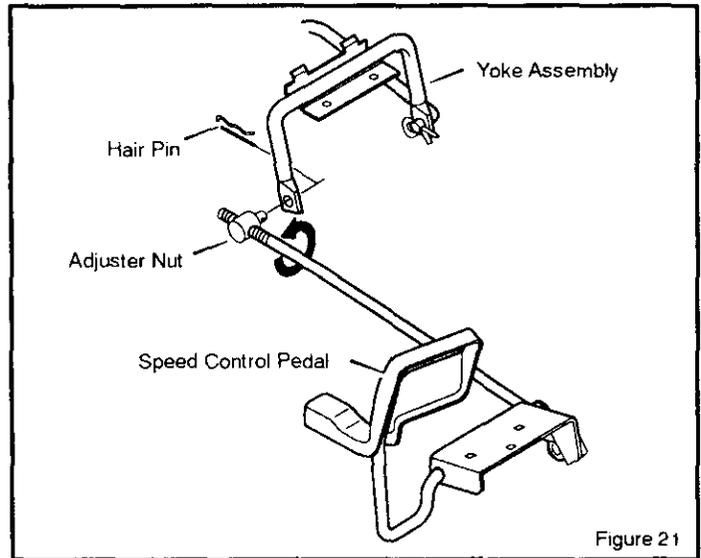

Figure 21
3. Remove the hair pin from the adjuster nut (Figure 21). Disconnect the adjuster nut from the yoke assembly.
4. Rotate the adjuster nut one turn in the direction shown in Figure 21.